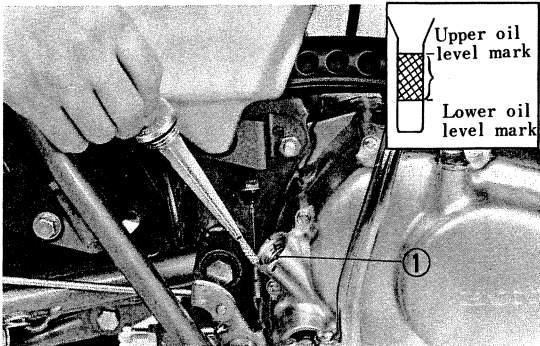

Fig. 6 ① Oil level gauge
- 3) Replace the cap and refill with fresh oil up to the upper level mark on the dip stick. Specified oil viscosity: (Fig. 6)